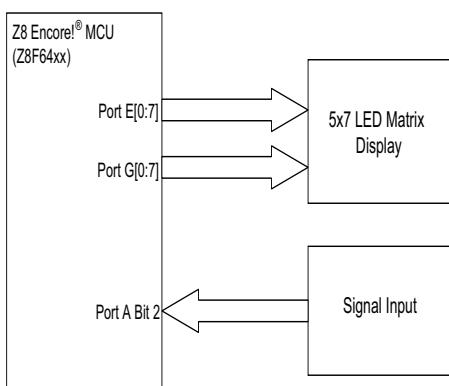

Figure 2. Hardware Architecture of the Z8 Encore! Frequency Counter
The block diagram of the Z8 Encore!® Frequency Counter is displayed in Figure 2. For details of the hardware implementation of the 5x7 LED Matrix Display, refer to the schematics of the Z8 Encore! Development Board available in the Z8 Encore!® Flash Microcontroller Development Kit User Manual (UM0146).
This section provides necessary details for testing the functionality of the Z8 Encore! Frequency Counter. The setup diagram is displayed in Figure 2 on page 2.
1. Set up the connection between the Z8 Encore! Development Board and the Signal Generator as displayed in Figure 2 on page 2. Connect the output of the Signal Generator to Port A bit 2 of the Z8 Encore! MCU.